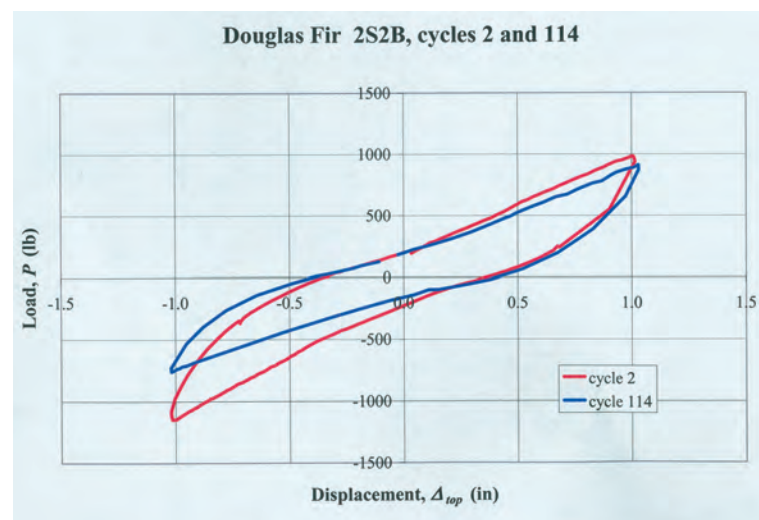

FIGURE 6. EFFECT OF MULTIPLE LOAD CYCLES.
**Cyclic Effects:** Two frames were examined for the effects of multiple load cycles. Fig. 6 compares the load-displacement response of load cycle 114 to cycle 2 for the Douglas fir frame. The average frame stiffness was reduced to 670 lbs. per in. from 900, but there was no evidence of free displacement. Subjecting the Port Orford cedar frame to 600 cycles did not significantly affect global stiffness, but the effects of cycling created a free displacement of 0.3 in. This was the only observed incidence of significant free displacement in a 2S2B frame subjected to service level lateral loading.